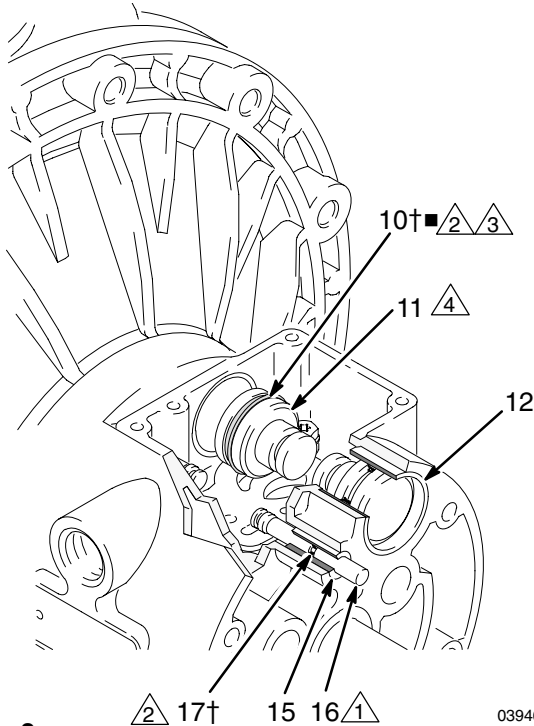

Fig. 8
4. Pull the two actuator pistons (11) out of the bearings (12). Remove the u-cup packings (10) from the pistons. Pull the pilot pins (16) out of the bearings (15). Remove the o-rings (17) from the pilot pins. See Fig. 8.
6. Inspect the bearings (12, 15) in place. See Fig. 8. The bearings are tapered and, if damaged, must be removed from the outside. This requires disassembly of the fluid section. See page 20.
4. Install an o-ring (17†■) on each pilot pin (16). Grease the pins and o-rings. Insert the pins into the bearings (15), **narrow** end first. See Fig. 8.
5. Install a u-cup packing (10†■) on each actuator piston (11), so the lips of the packings face the **narrow** end of the pistons. See Fig. 8.
6. Lubricate the u-cup packings (10†■) and actuator pistons (11). Insert the actuator pistons in the bearings (12), **wide** end first. Leave the narrow end of the pistons exposed. See Fig. 8.